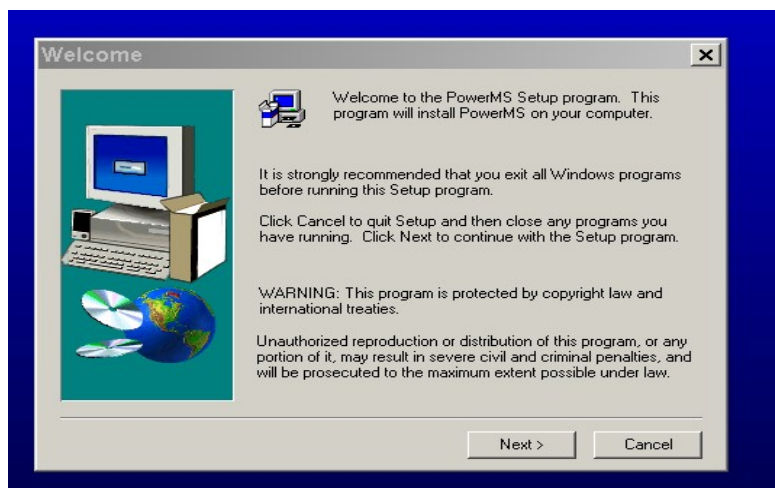

Fig. 3-2 Welcome Screen
- 3.1.2 The “Welcome” Screen will display the message as shown in Fig. 3-2. Press “NEXT” to continue.